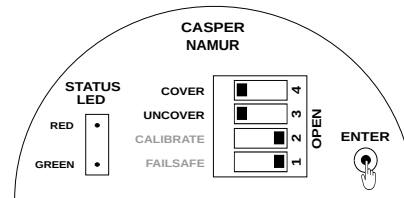

Figure 65: Setting of Low Current Configuration
- Press and Hold the ENTER key, RED Status LED will start blinking as per Figure 65.